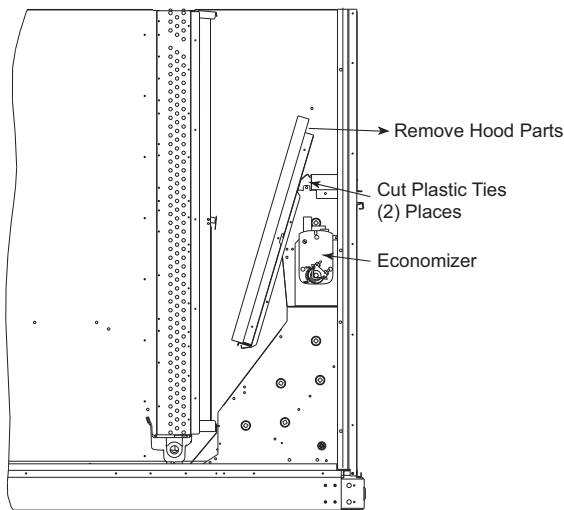

Fig. 12 - Economizer Wiring
3. Locate and cut the (2) plastic tie-wraps, being careful to not damage any wiring. (See Fig. 12.)